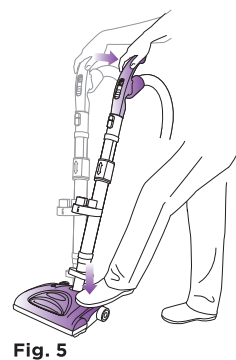

Fig. 5
- 5 To begin vacuuming, gently hold the power nozzle down with your foot, keeping it against the floor while you grasp the handle and tilt it towards you. (Fig. 5)